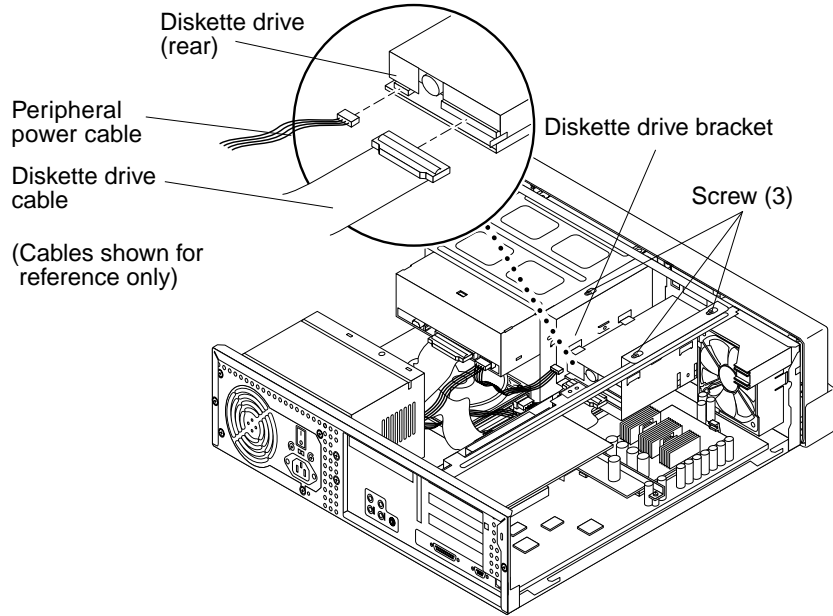

FIGURE 7 Removing or Replacing the Diskette Drive (Ultra 5)
- a. Using a No. 2 Phillips screwdriver, loosen but do not remove the three screws securing the diskette drive bracket to the chassis (FIGURE 7).
6. Replace the diskette drive (FIGURE 7).